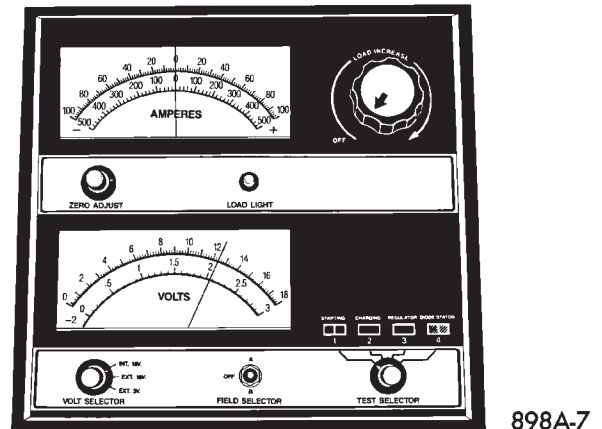
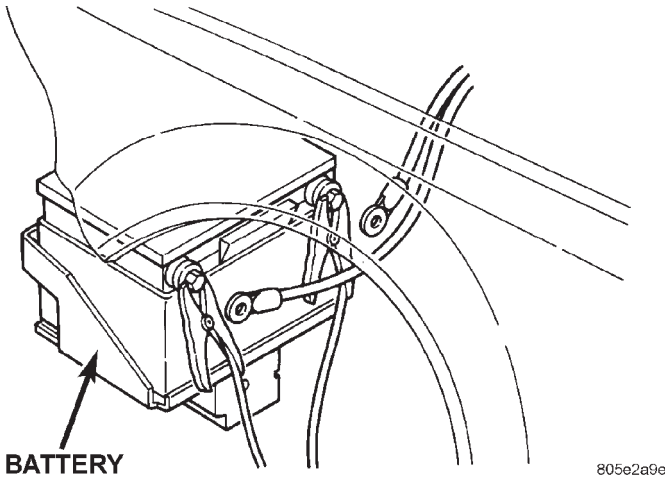

Fig. 9 Testing Open Circuit Voltage
Fig. 10 Volt-Ammeter Load Tester Connections
(1) Remove both battery cables, negative cable first. Connect a Volt/Ammeter/Load tester (Fig. 9) to the battery posts (Fig. 10).